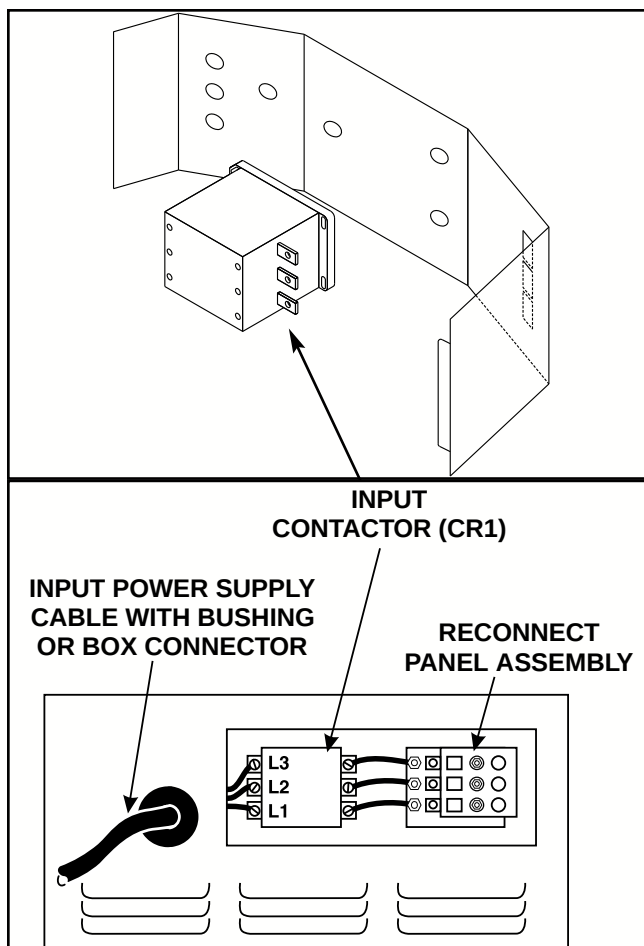

FIGURE A.2 - Input Power Supply Connections
5. Connect the three phase AC power supply leads L1, L2, and L3 to the input contactor terminals in the Input Box Assembly by passing them thru the three aligned .50" diameter holes in the baffle and tighten them in the terminal connectors. Be sure to close the baffle by inserting the tab into the slot in the baffle. See Figure A.2.